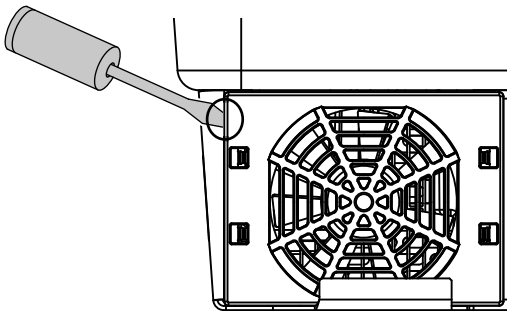

Fig. 69: Loosen fan grill
2. Dismantle the fan. To do this, place a screwdriver at the edge of the fan grill and apply a little pressure to the fan grill.  **Fig. 69**